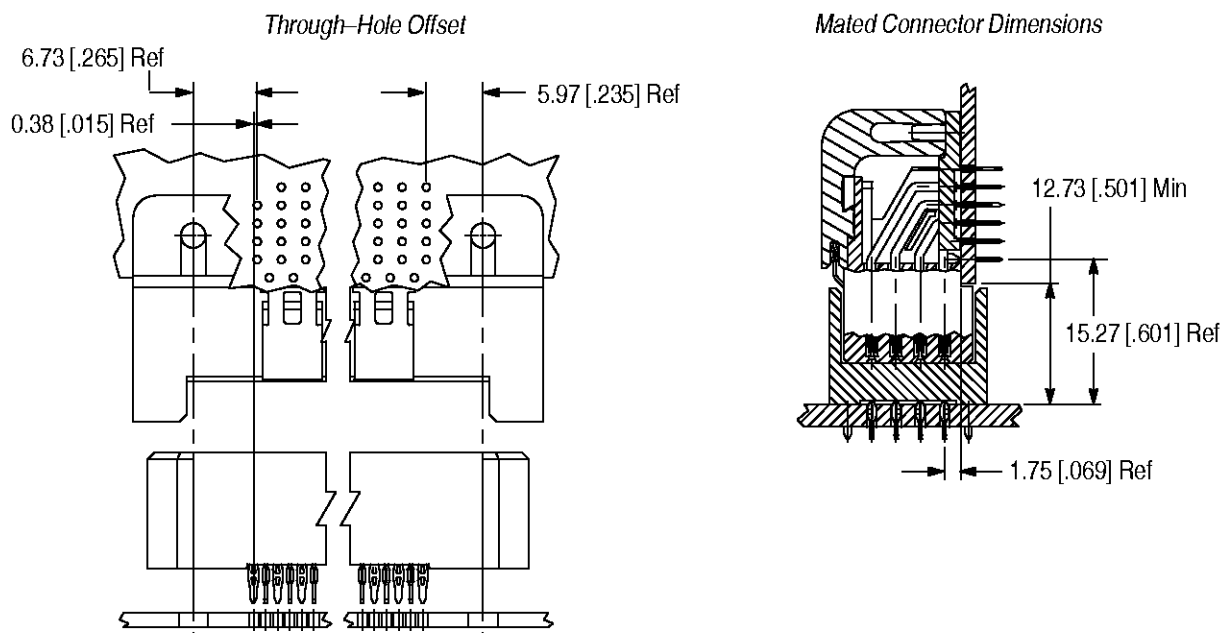

Figure 12
- NOTES:** (1.) See Figure 12 for hole offsets and mating alignment dimensions.
Figure 12 shows pc board pattern offsets and desired mated connector measurements.